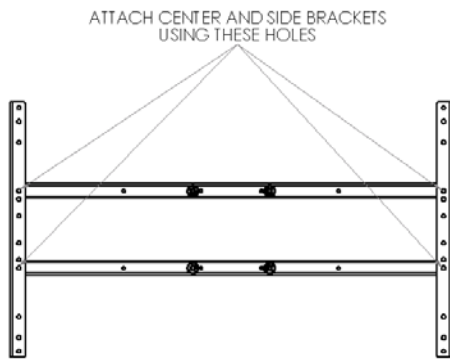
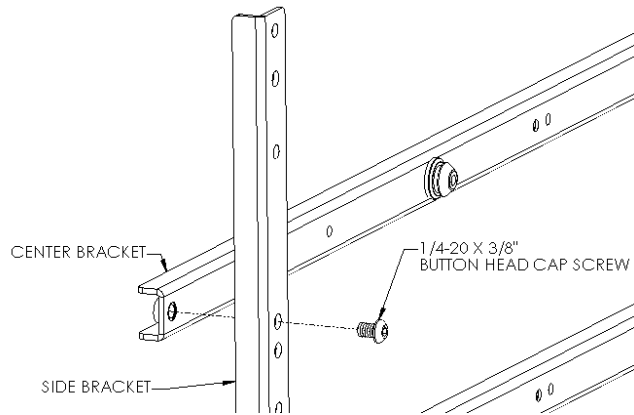

Figure 3
Figure 4
- Attach center brackets to side brackets using the 1/4-20 screws (see Figure 3 & Figure 4).